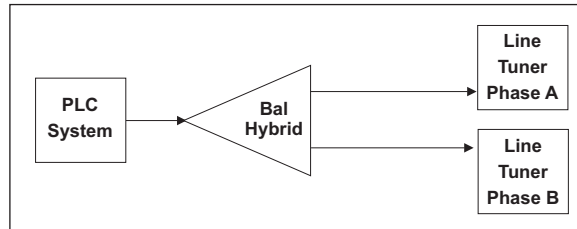

Figure 7-6.
- If required, to split signals instead of combining, a balanced hybrid can be turned around backwards to be used as a balance transformer. (See Fig 7-6)